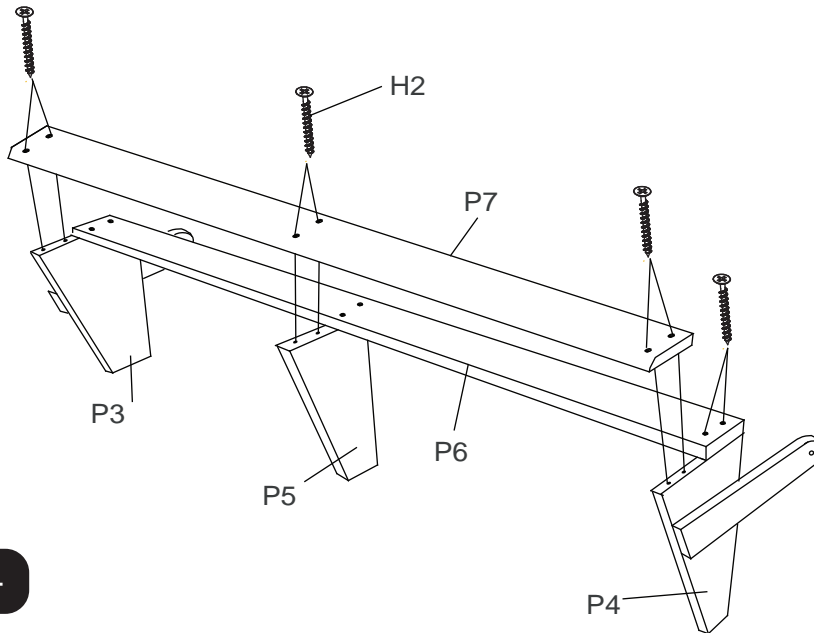

Figure 4
6. Attach chair boards(P6&P7) with left leg P3 、 middle leg P5 and Right leg P4 using screws H2 as shown in Figure 4. Be sure chair board B (P7) with rotating stick (P3&P4) at the same direction.